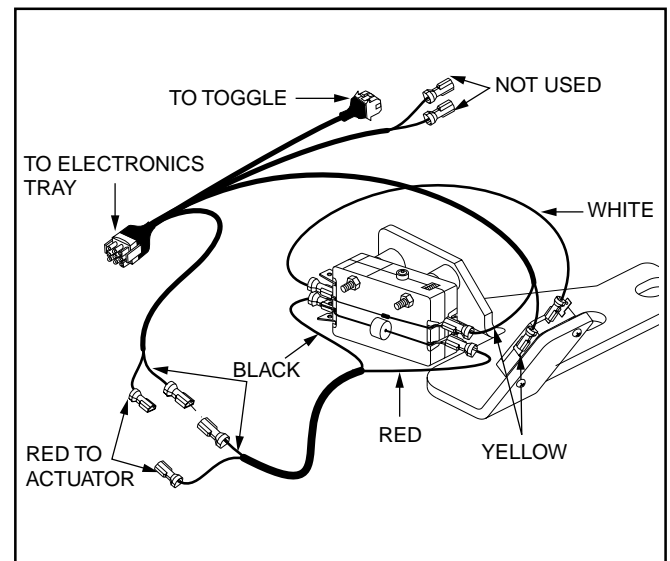

Figure 4.66. Toggle Harness Connections
1. Locate the two limit switches under the seat of the power chair and verify that the wiring harnesses are correctly connected to the limit switches. See figure 4.66.
- Using a multimeter set to measure resistance, check the limit switch wire harness for continuity from the yellow wires on the limit switches to the small AMP connector disconnected from the TAM. See figures 4.66 and 4.67.